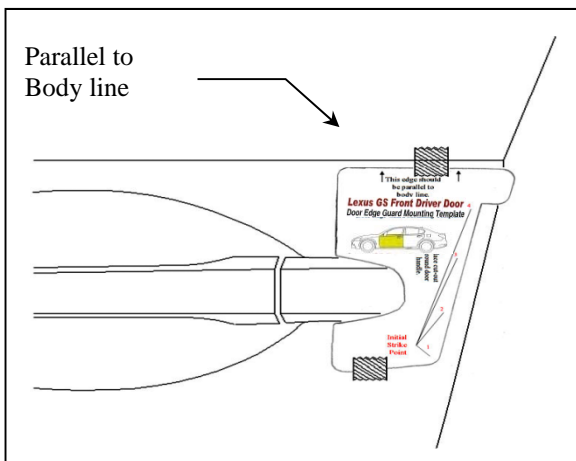

Fig. 2-3
- (i) Select the front door template and fit the notch around the door handle. Adjust as needed to ensure it is parallel to the body line directly above the template. If needed, tape it into place using painter’s masking tape (Fig 2-3).